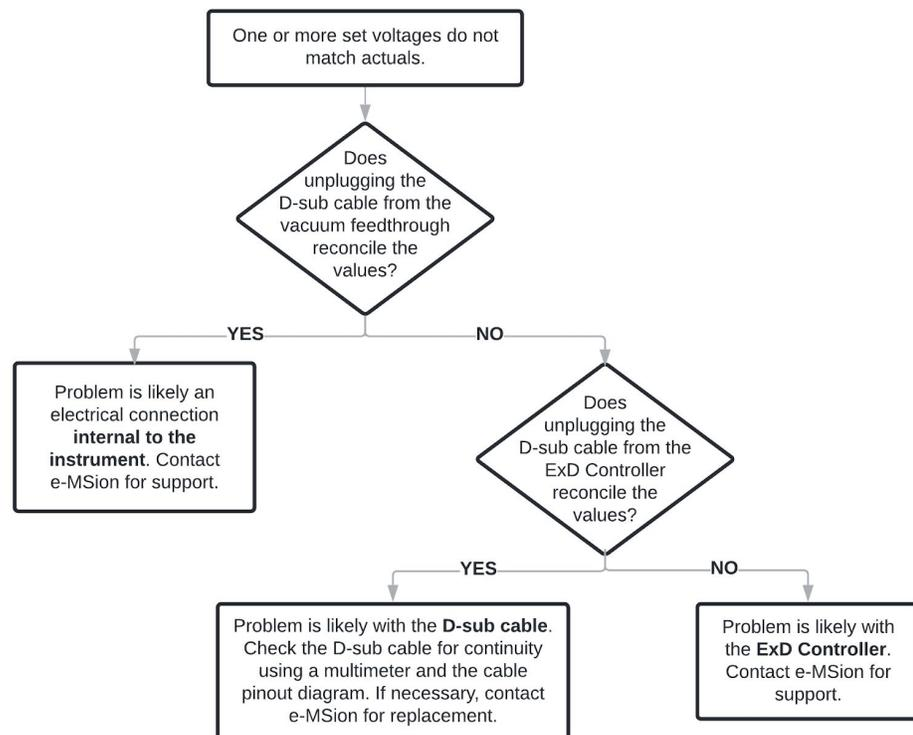

Figure 32. Decision tree for checking ExD Option for hardware malfunction.
- If a constant mismatch between these values for one or more lenses exists, use the decision tree in **Figure 32** to attempt to pinpoint the cause.